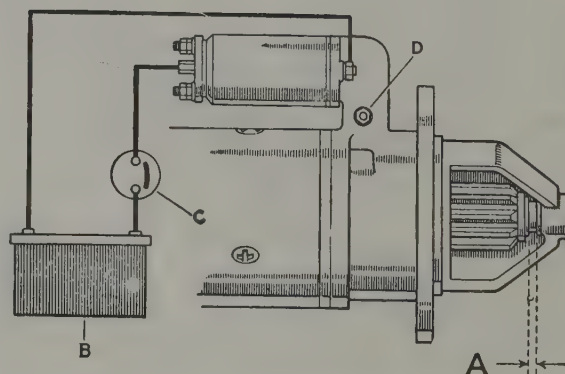

Fig. 10.13. Starter pinion clearance setting diagram (solenoid energised) - Lucas M45G
- 7 Check that the retaining ring is fitted over the circlip before refitting the drive end housing to the starter motor. Refer to Fig. 10.13, and reset the pinion clearance using feeler gauges and rotating the eccentric pivot pin "D".